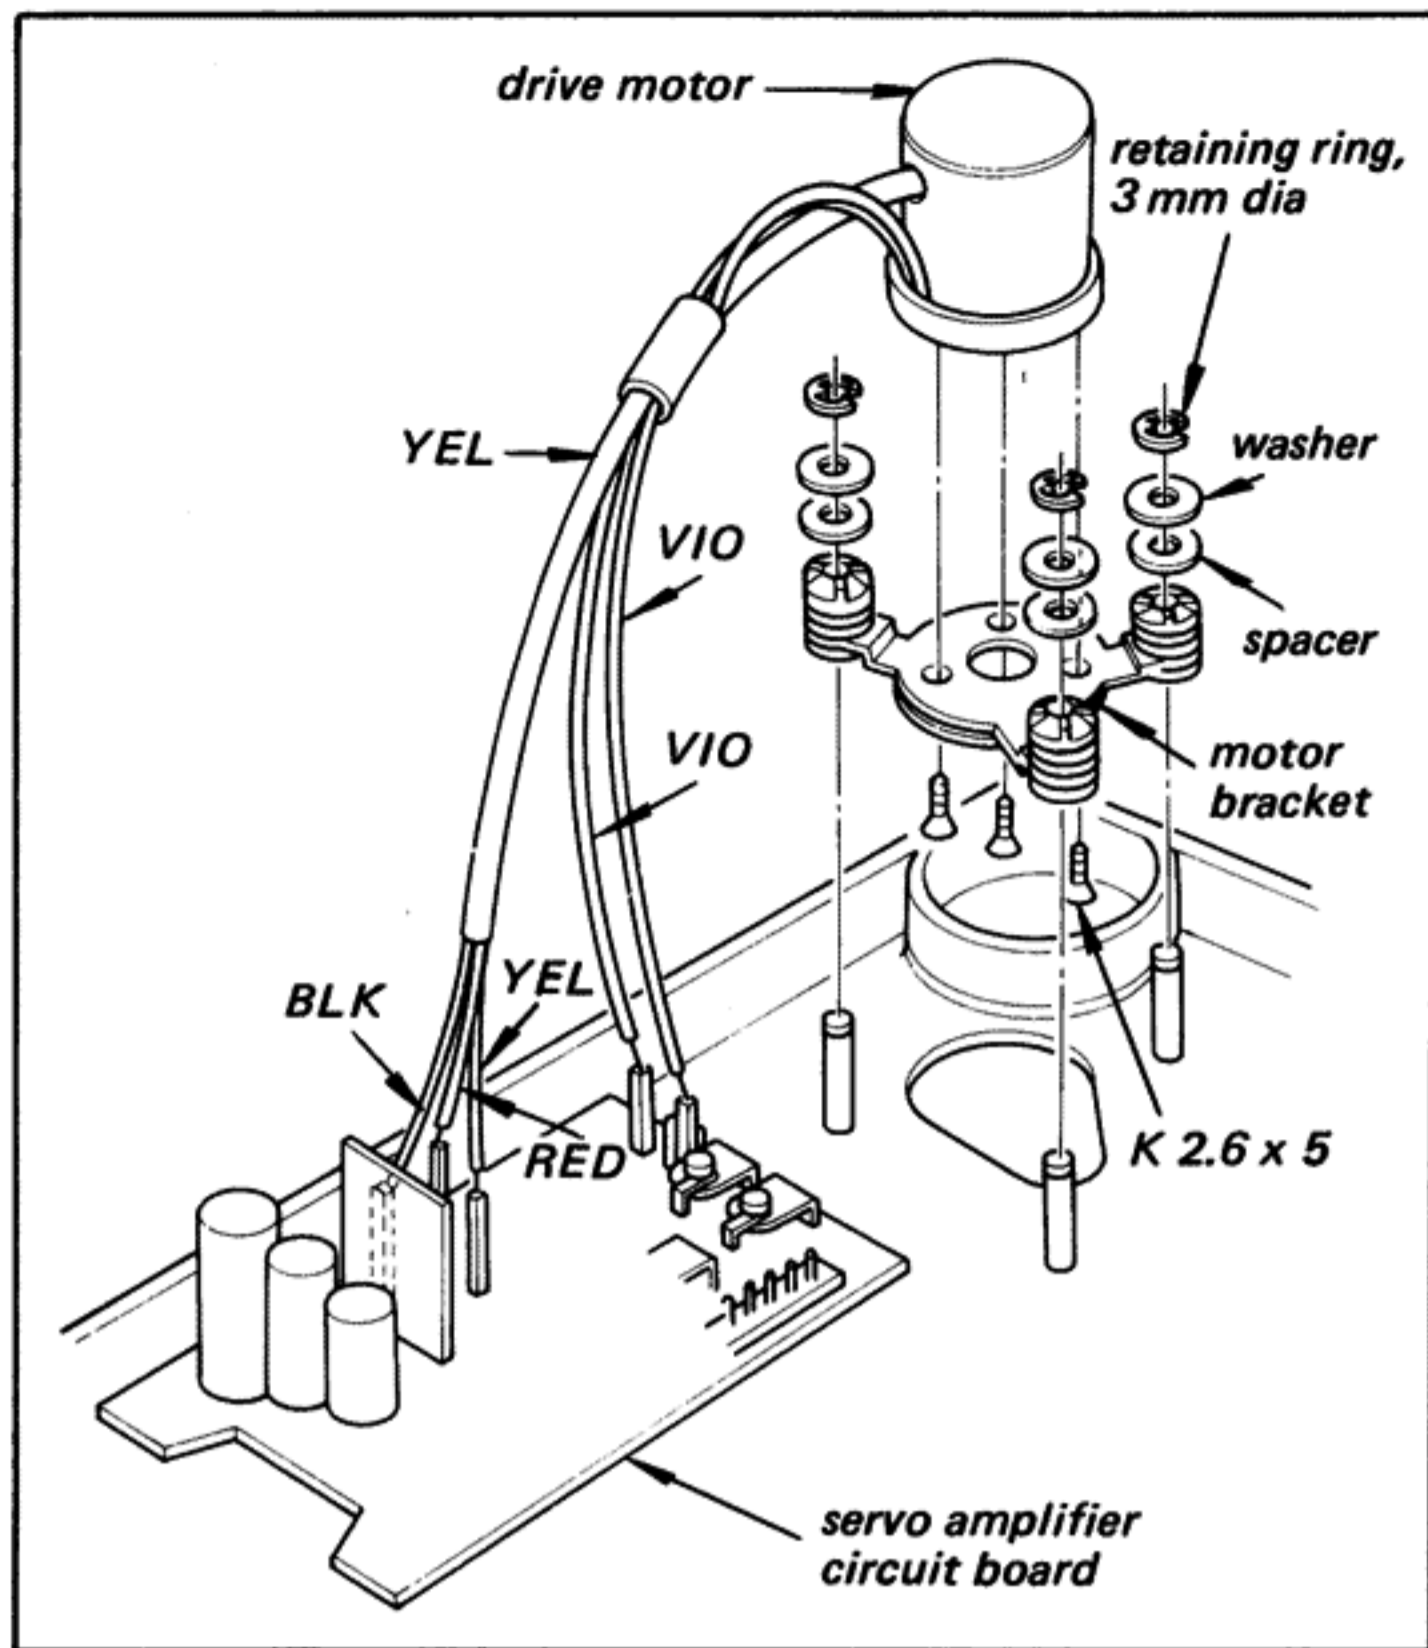

Fig. 2-6. Motor replacement
2. Unsolder the five lead wires at the servo amplifier circuit board shown in Fig. 2-6.
3. Remove the three retaining rings, three washers and three spacers shown in Fig. 2-6.
4. Remove the motor from the motor bracket by removing the three screws (K 2.6 x 5) shown in Fig. 2-6. This frees the motor.